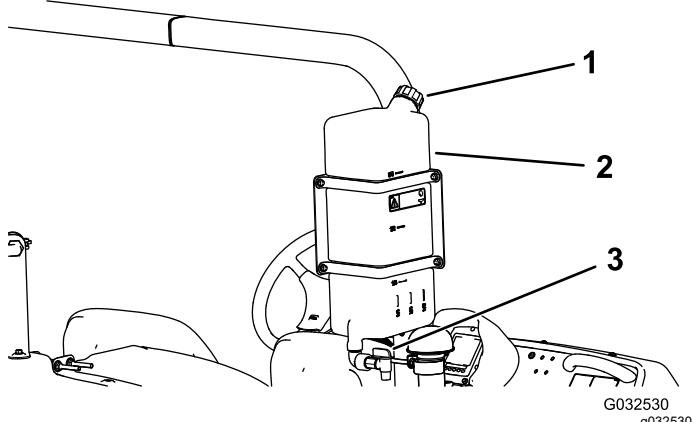

Figure 30
- To fill the tank, unscrew the cap at the top of the tank, fill the tank with fresh water, and install the cap (Figure 30).
- To open the fresh-water tank spigot, turn the lever on the spigot (Figure 30).